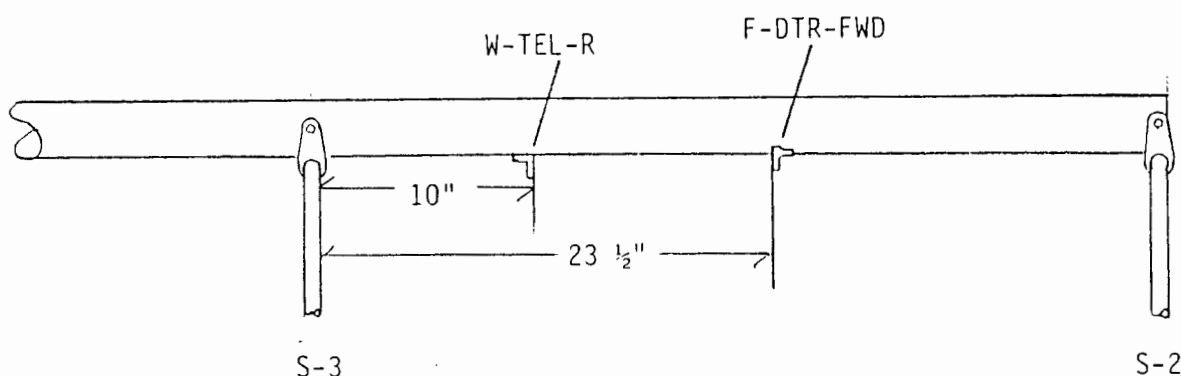

FIGURE 09-03
3. Locate the single and double slot teleflex retainers in the locations shown in Figure 09-03.